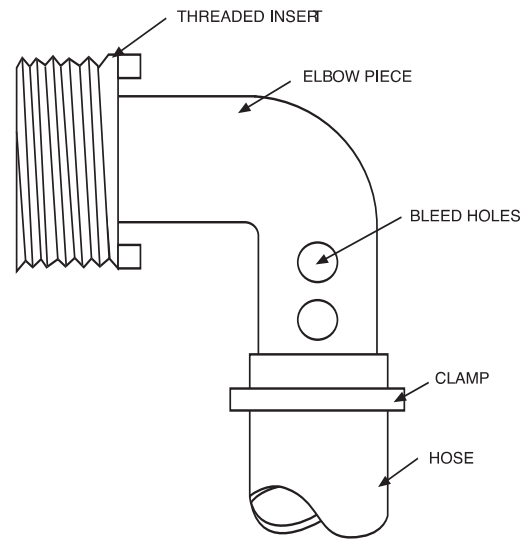

FIGURE 5
Height adjustment is achieved by covering more or less of the bleed holes (Fig. 5) on your elbow piece (8) with the hose (5). The more holes covered, the higher the fountain and vice versa.
Height adjustment is achieved by covering more or less of the bleed holes (Fig. 5) on your Elbow Piece (8) with the hose (5). The more holes covered, the higher the fountain and vice versa. If your fountain is still not as high as desired, use the threaded plug (13) to plug one of the other inlets.
Height adjustment is achieved by covering more or less of the bleed holes (Fig. 5) on your Elbow Piece (8) with the hose (5). The more holes covered, the higher the fountain and vice versa. If your fountain is still not as high as desired, use the threaded plug (15) to plug one of the other inlets.